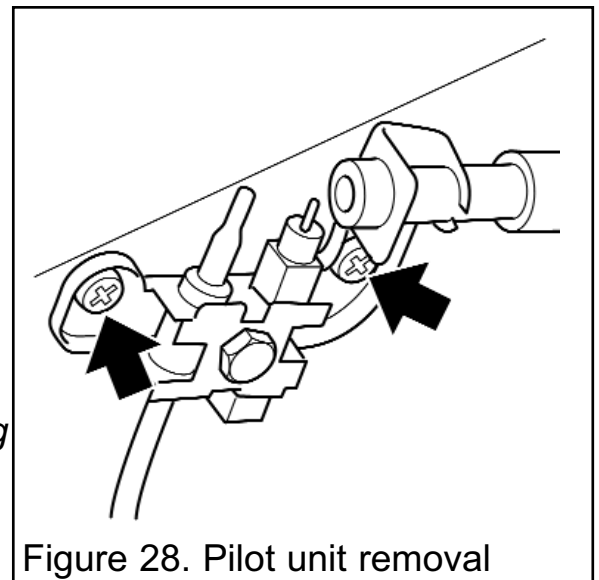

Figure 28. Pilot unit removal
5. Remove the two screws securing the pilot unit (See figure 28).